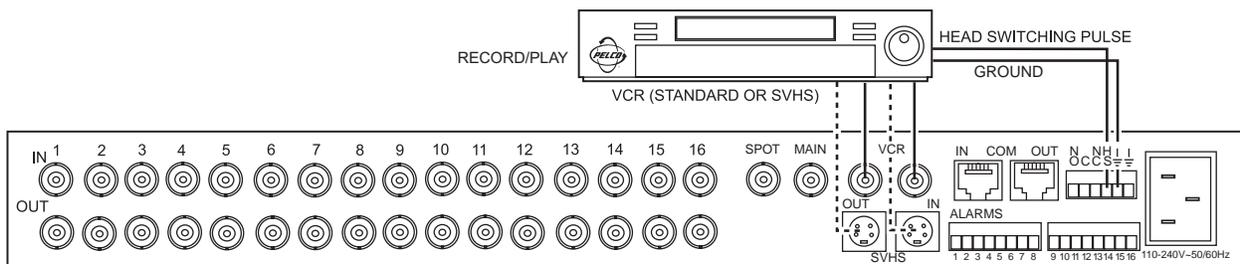

Figure 6. VCR Wiring Example
1. Connect the video. Refer to Figure 6.
- a. One way is with a head switching pulse from the VCR. This is the most reliable way to synchronize the multiplexer and VCR. The pulse from the VCR tells the multiplexer how fast to switch between cameras. To use this method, connect the head switching pulse output from the VCR to the HS (head switching) connection on the multiplexer. Refer to Figure 6. The six-pin plug-in terminal block may be pulled out of the connector on the back of the multiplexer to facilitate ease of wiring.